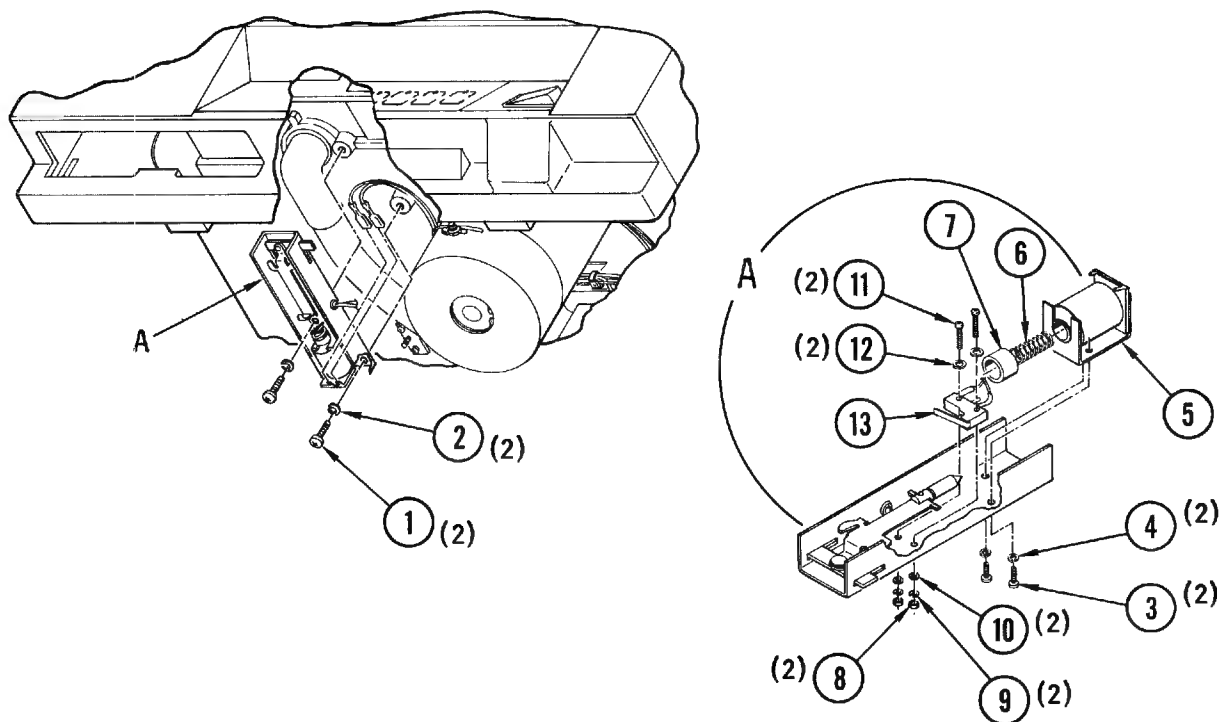

Figure 4-30. Door Lock Assembly
4-48. **Removal and Disassembly (Figure 4-30).** Place the transport in service access position in accordance with instructions in paragraph 4-3. Remove the door lock assembly from the top plate and disassemble as necessary to replace defective parts as follows:
- c. Remove door lock assembly from top plate by removing two screws (1, Figure 4-30) and lockwashers (2).
- e. Remove two screws (3), and lockwashers (4), and remove solenoid (5) from assembly. Remove spring (6) and spacer (7).
- f. Remove switch (13), by removing two nuts (8), lockwashers (9), flat washers (10), screws (11) and flat washers (12). Switch may then be removed by sliding out solenoid end of bracket.